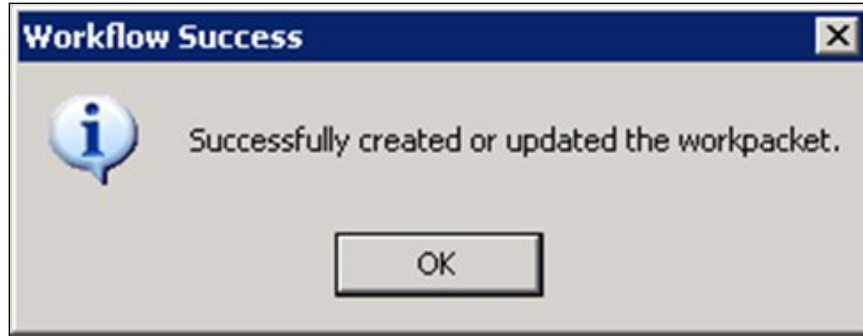

Figure 7-41: Workflow Success Message
10. Click the OK button. The Workflow Success Message is displayed (Figure 7-41).